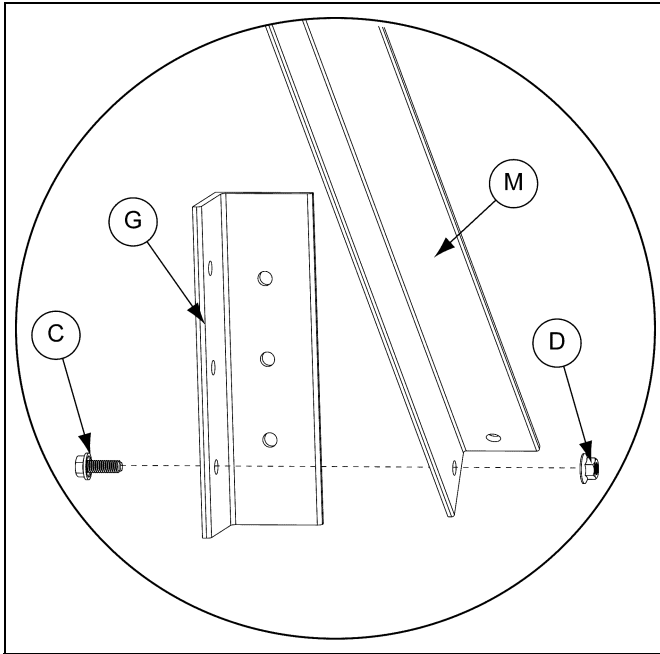

Figure 5F
5. Install the middle platform support to the wall clips (G) and a plank (I).
6. Install the end platform supports to the wall clips (G), handrail posts, a shim and the plank (I).
7. Install the outer toe board to the planks (I). *(See Figure 5F.)*